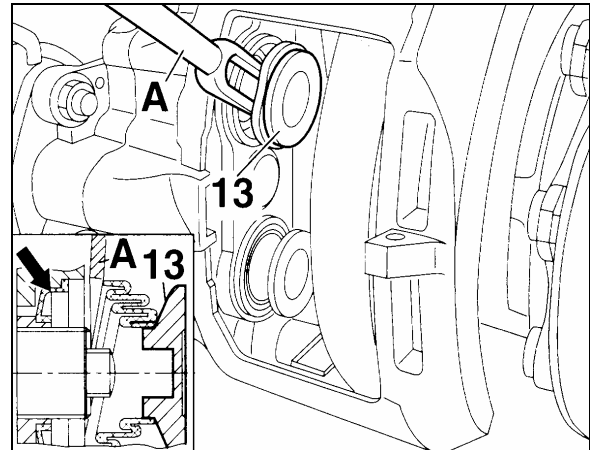

FIGURE 35: RUBBER BOOTS
- a) The rubber boots (13, Fig. 35) should show no damage, check the attachment.